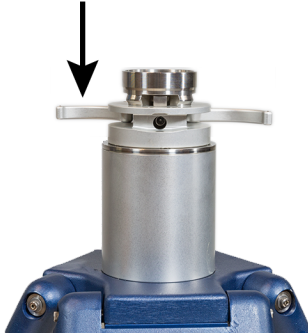

Figure 4-6 Tightening Side Lever
2. Pull out the lever out from the side of the mandrel as shown in Figure 4-6 Use the lever to tighten the mandrel onto the stand.